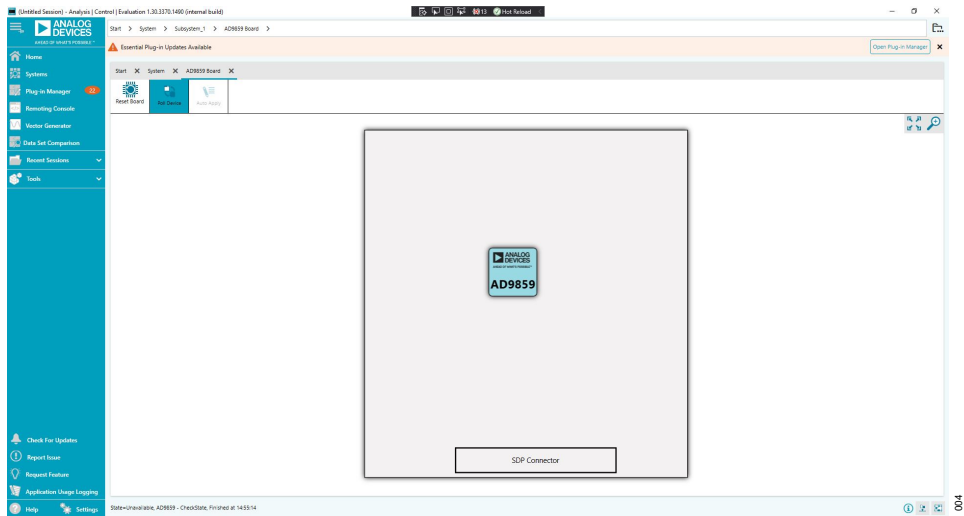

Figure 4. ACE Software AD9859 Evaluation Board Page
2. Double-click the **AD9859 Board** icon and the tab shown in the **Figure 4** then appears.